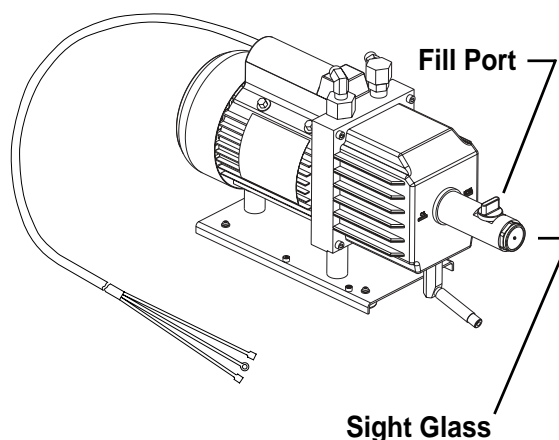

Figure 2
1. Remove the plug from the vacuum pump fill port. See Figure 2.
2. Attach the flexible tube and cap to the oil bottle, and pour six (6) ounces of vacuum pump oil into the vacuum pump fill port.